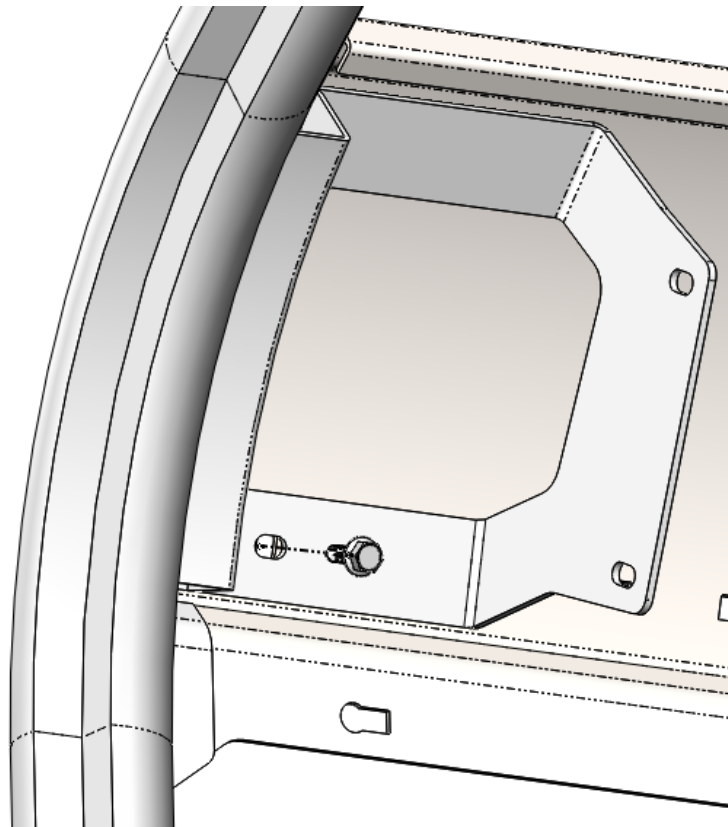

Figure 9: Install the bolts to secure the brackets and visor to the roof.
8. Reusing the factory bolts, install the two bolts through the *Audio Mini* brackets and visor into the roof. Tighten both bolts to secure the brackets to the visor and roof. See Figure 9. Note: Driver side shown. (Passenger side similar)